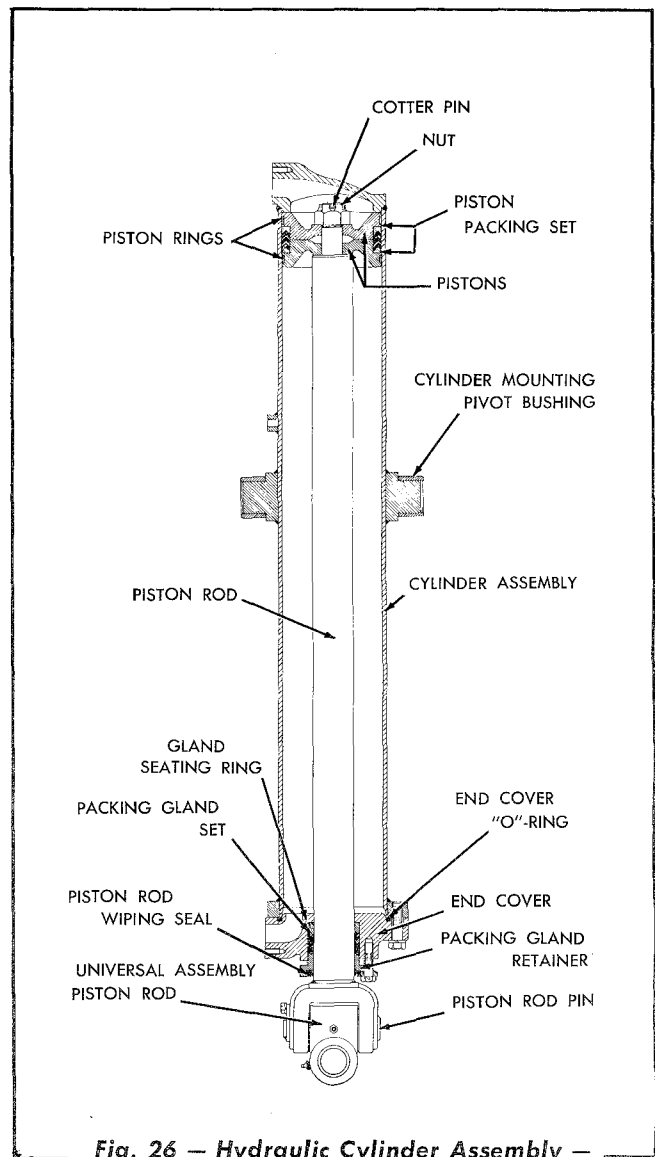

Fig. 26 - Hydraulic Cylinder Assembly - Sectional View
The two dozer hydraulic cylinders (Fig. 26) are of the double acting type and are provided for raising and lowering the moldboard. When the dozer operating control lever is moved to the "Lower" position, oil under pressure from the hydraulic pump passes through the dozer control valve, enters the top of the hydraulic cylinders, and forces the cylinder pistons and piston rods downward; oil in the cylinders below the pistons is returned to the oil reservoir. When the dozer operating control lever is moved to the "Raise" position, oil under pressure from the hydraulic pump passes through the dozer control valve, enters the bottom of the hydraulic cylinders, and forces the cylinder pistons and piston rods upward; oil in the cylinders above the pistons is returned to the oil reservoir.
A. Disassembly (Fig. 26)
C. Assembly (Figs. 26, 27, and 28)